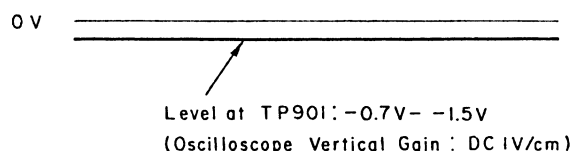

Fig. 4.6
Refer to Figs. 4.6 – 4.8.
- Connect a Synchroscope to TP901 on the Detector P.C.B. Ass'y. Set Synchroscope to DC mode and 1 V/cm vertical gain. Check to insure that the minus level (–0.7 to –1.5 V) is observed on the Synchroscope as shown in Fig. 4.6.